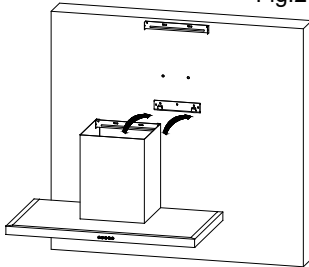

Fig.4
- Hang range hood on the installation plate. See Fig.4.